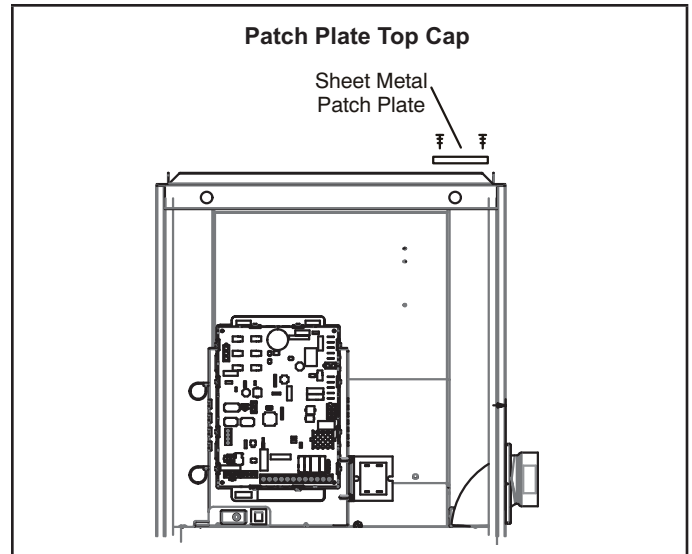

FIGURE 21
- 8 - Re-use the patch plate to cover the hole in the top cap. See FIGURE 21. Remove the 2 screws which secure the top cap to the furnace on the right side and re-install securing the right edge of the patch plate and the right side of the top cap to the furnace. Use 2 self-drilling sheet metal screws (provided) to finish securing the left edge of the patch plate on the left side.